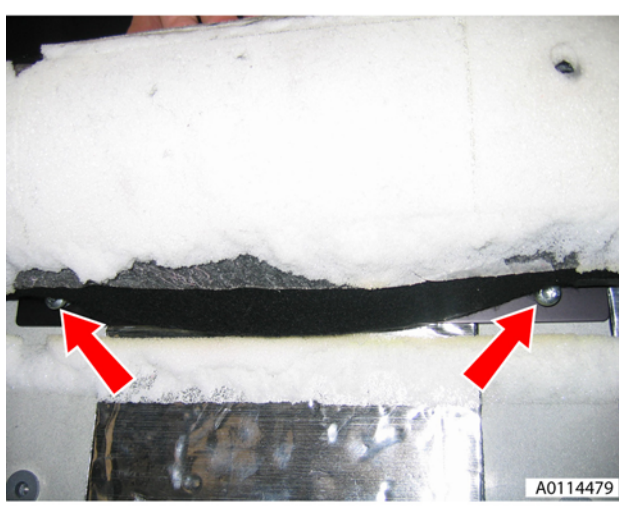

Figure 3
6. Remove 2 lower bolts securing striker panel to body (see Figure 3).